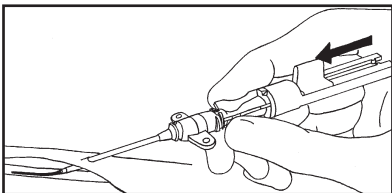

Figure 3
7. Stabilize position of introducer needle and carefully advance guidewire into vessel using guidewire handle (refer to Figure 3). When the guidewire is fully retracted, the tip of the guidewire is located at the needle tip.